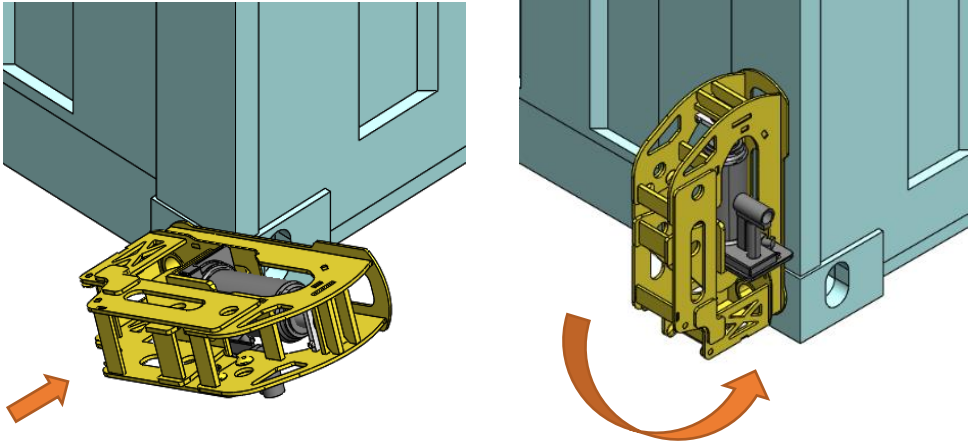

Figure 2 Mounting of climber unit.
2. Attach the climber unit to the corner casting by inserting it horizontally to the hole and then pivoting the unit to vertical (**Figure 2**)